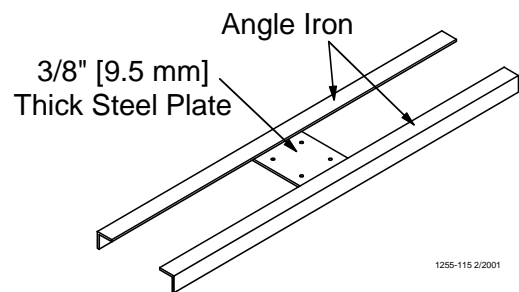

Figure 5. Optional Power Lift Winch Support Detail
1. Bolt the Power Winch, fully assembled, to the Power Lift Winch Support, either a 2" x 8" [50x200 mm] board that will span at least 3 rafters or a 3/8" [9.5 mm] thick steel plate welded to two pieces angle iron that are each long enough to span at least 2 rafters, using 5/16-18 hardware supplied in the Hardware Package. The brake mechanism will extend toward one side. **See Figure 5.**